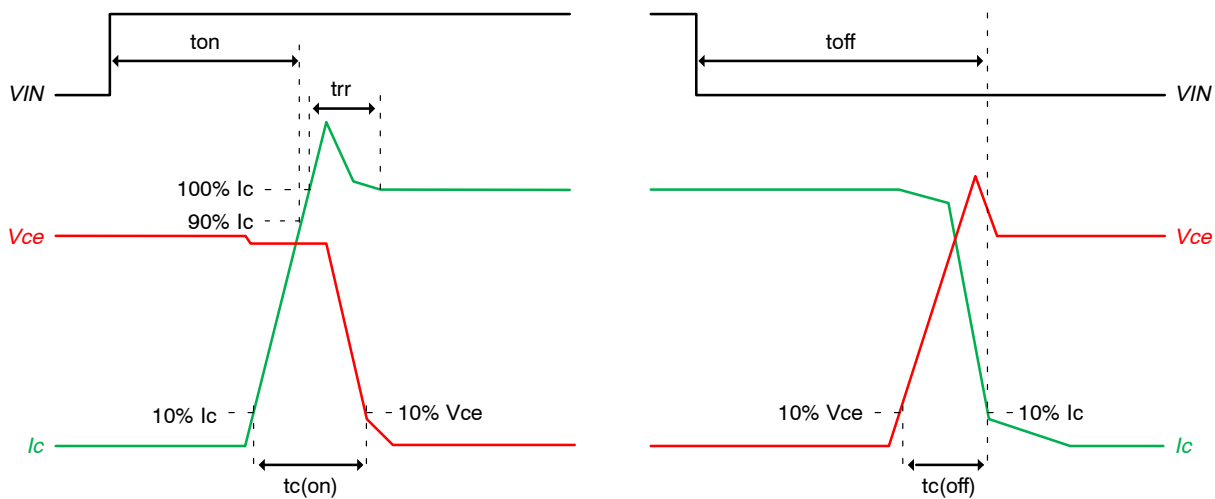

Figure 3. Switching Time Definition
4. ton and toff include the propagation delay of the internal drive IC. tc(on) and tc(off) are the switching times of IGBT under the given gate*driving condition internally. For the detailed information, please see *Figure 3*.